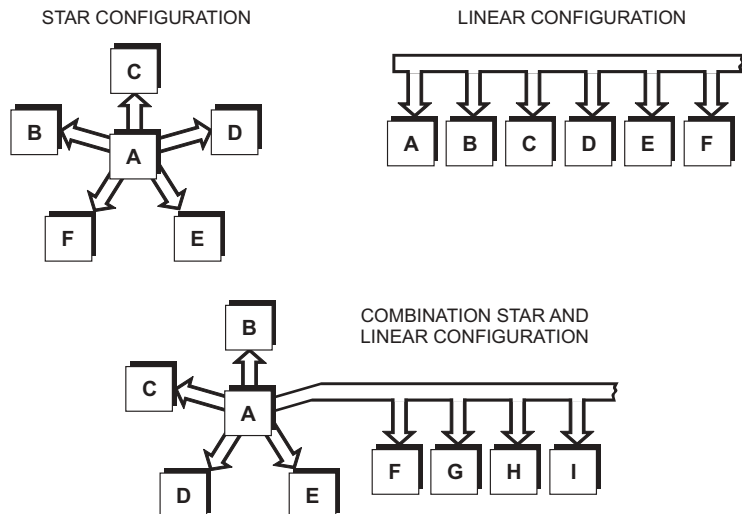

Figure 70. GPIB devices may be connected in star, linear, or combination configurations.
- Devices may be connected in a star or linear configuration (see Figure 70), or a combination of star and linear configurations.